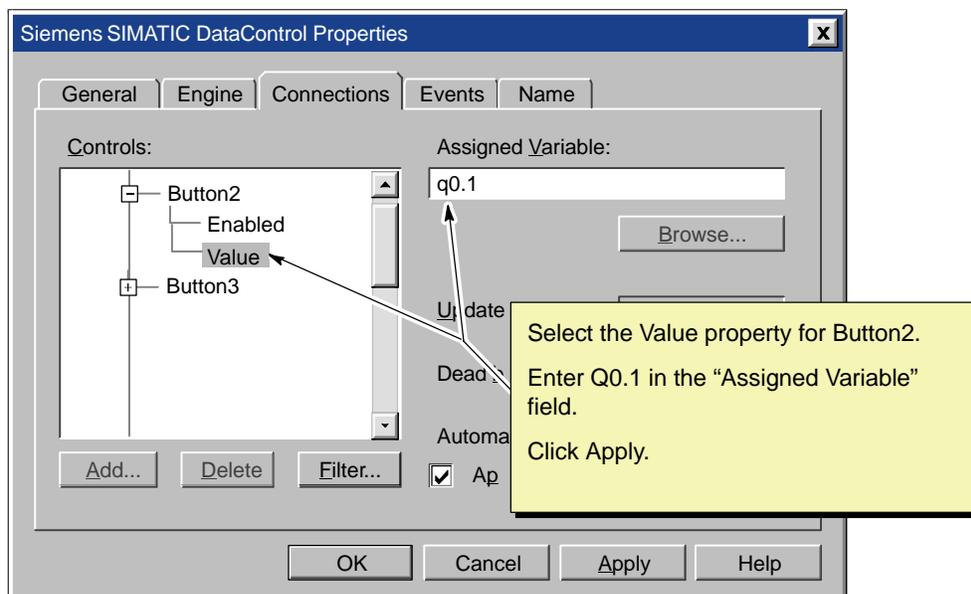

Figure 3-16 Assigning the Variable for Button2
- With the Value property for Button2 selected, enter `q0.1` in the "Assigned Variable" field. See Figure 3-16.